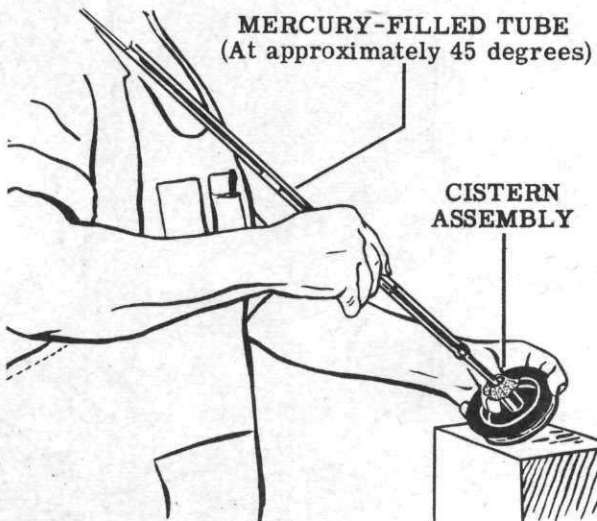
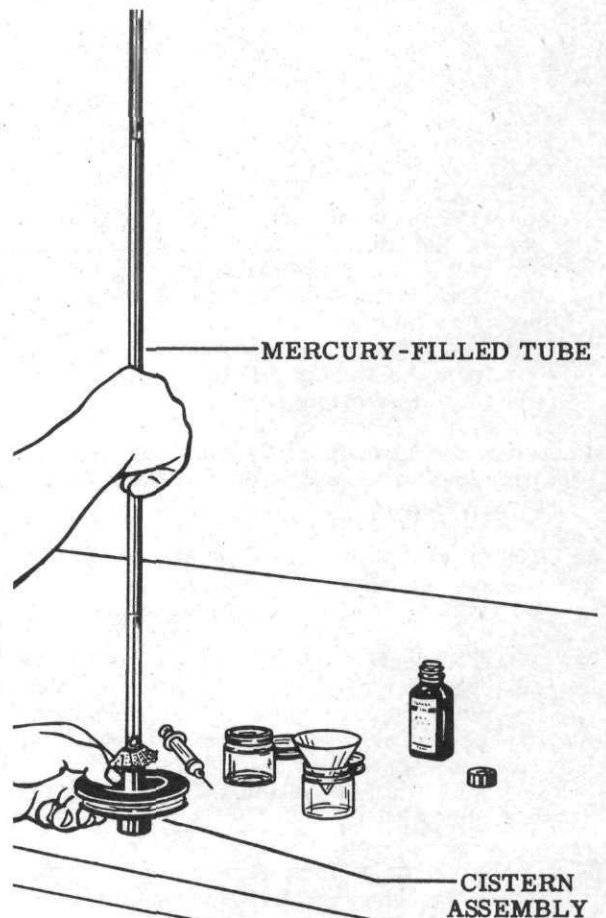

Figure 50
Figure 51
60. Slowly tilt the mercury-filled tube and join the mercury in the tube with the mercury in the cistern assembly. When you have raised the mercury-filled tube to an angle of about 45 degrees (see Fig. 50), invert it completely into the cistern assembly. In- sure that no air enters the mercury tube during this operation. See Fig. 51.